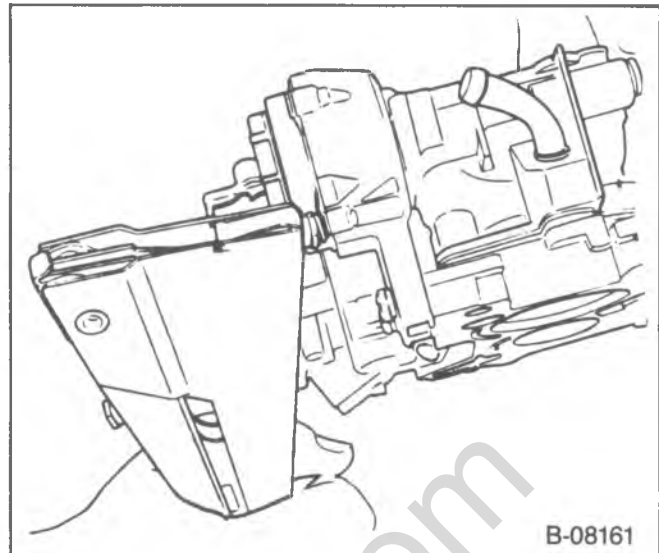

Figure 10—Installing the Choke Coil Rivets
2. Retainers and rivets using a suitable blind rivet installing tool (figure 10).